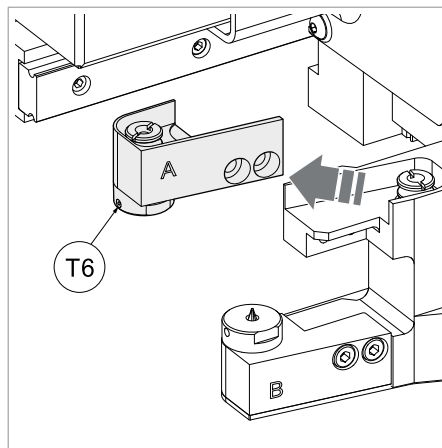

Fig. 151
- 7) Remove the two front screws (T5) to take out the cutter support (Fig. 151).